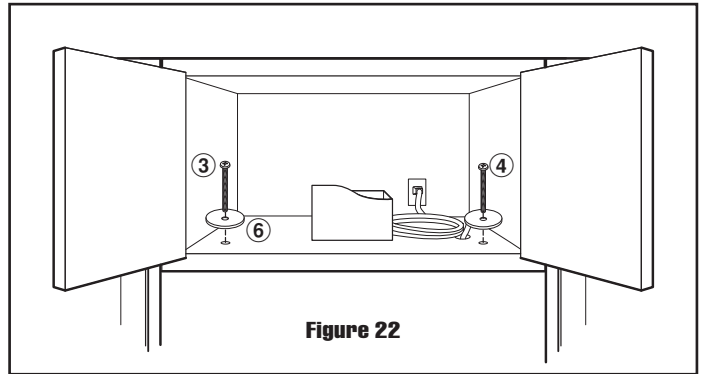

Figure 22
3. Use two Top Cabinet Screws and two Flat Washers, supplied in the INSTALLATION HARDWARE, to attach the unit to the top cabinet. See Figure 22.